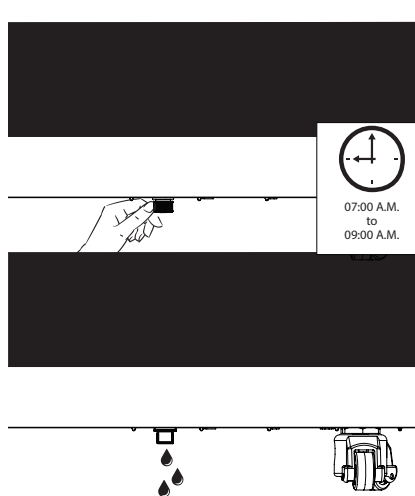

fig. 17
3. Place a tray under the condensation water drain. If the appliance has an auto-drainage system, no need for tray. See fig. 17
When ordering spare parts, please state the type, serial and product numbers of your appliance. This information is given on the rating plate (fig. 17). The rating plate contains various technical information, including type and serial numbers.